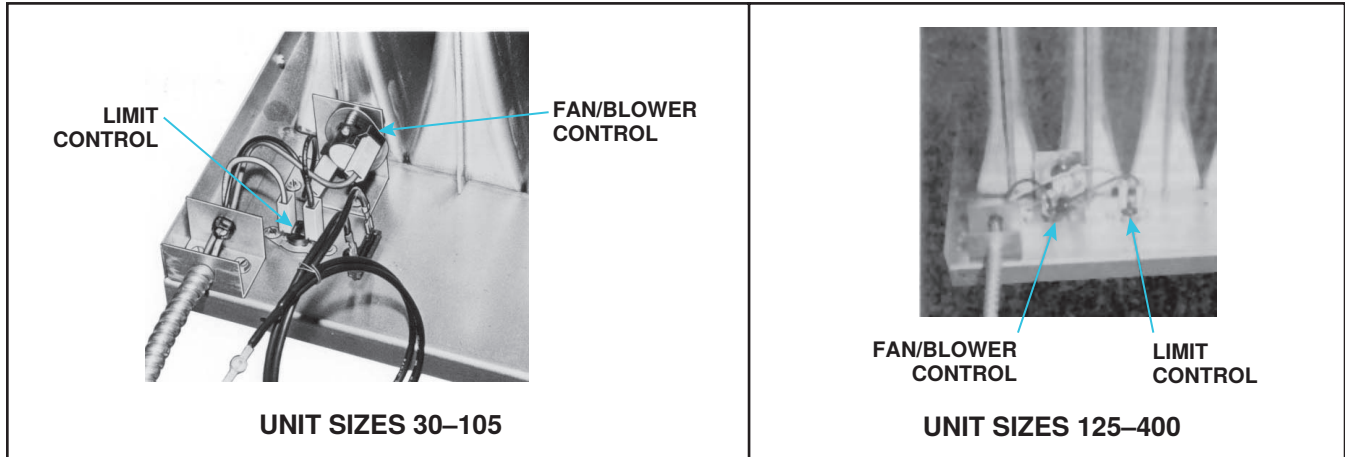

Figure 1. Existing Control Locations
2. Locate existing fan/blower control (see Figure 1). Disassemble heater as necessary to access fan/blower control.
3. Disconnect fan/blower control wires and remove existing fan/blower control. If control is on spring-loaded bracket as shown in Figure 1, remove entire bracket assembly.